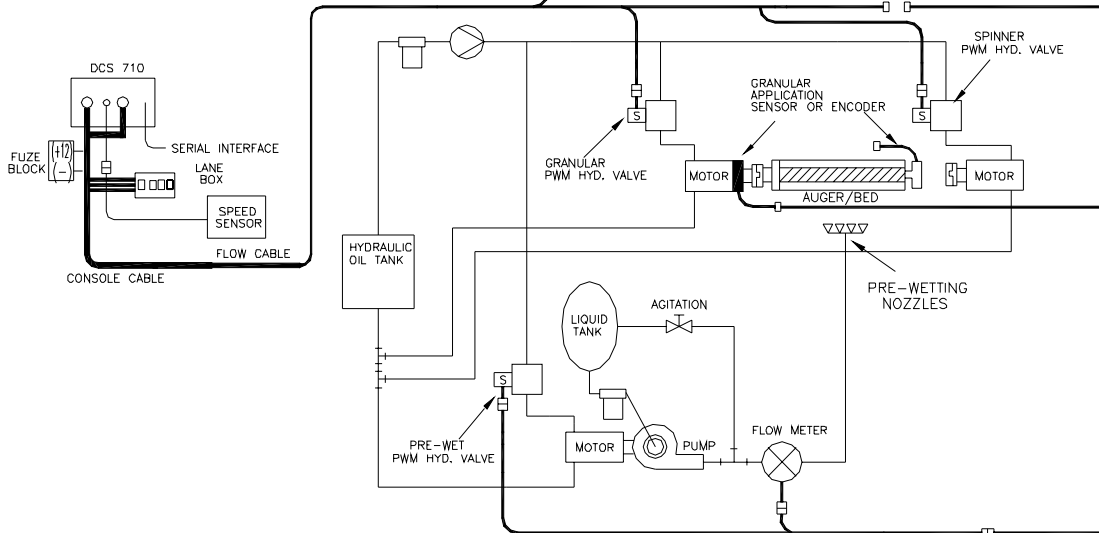

FIGURE 4
- 1) Mount Flow Meter in the area of the liquid control per Figure 4. All flow through Flow Meter must go to pre-wetting or anti-icing nozzles only, i.e., no return line to tank or pump after Flow Meter.